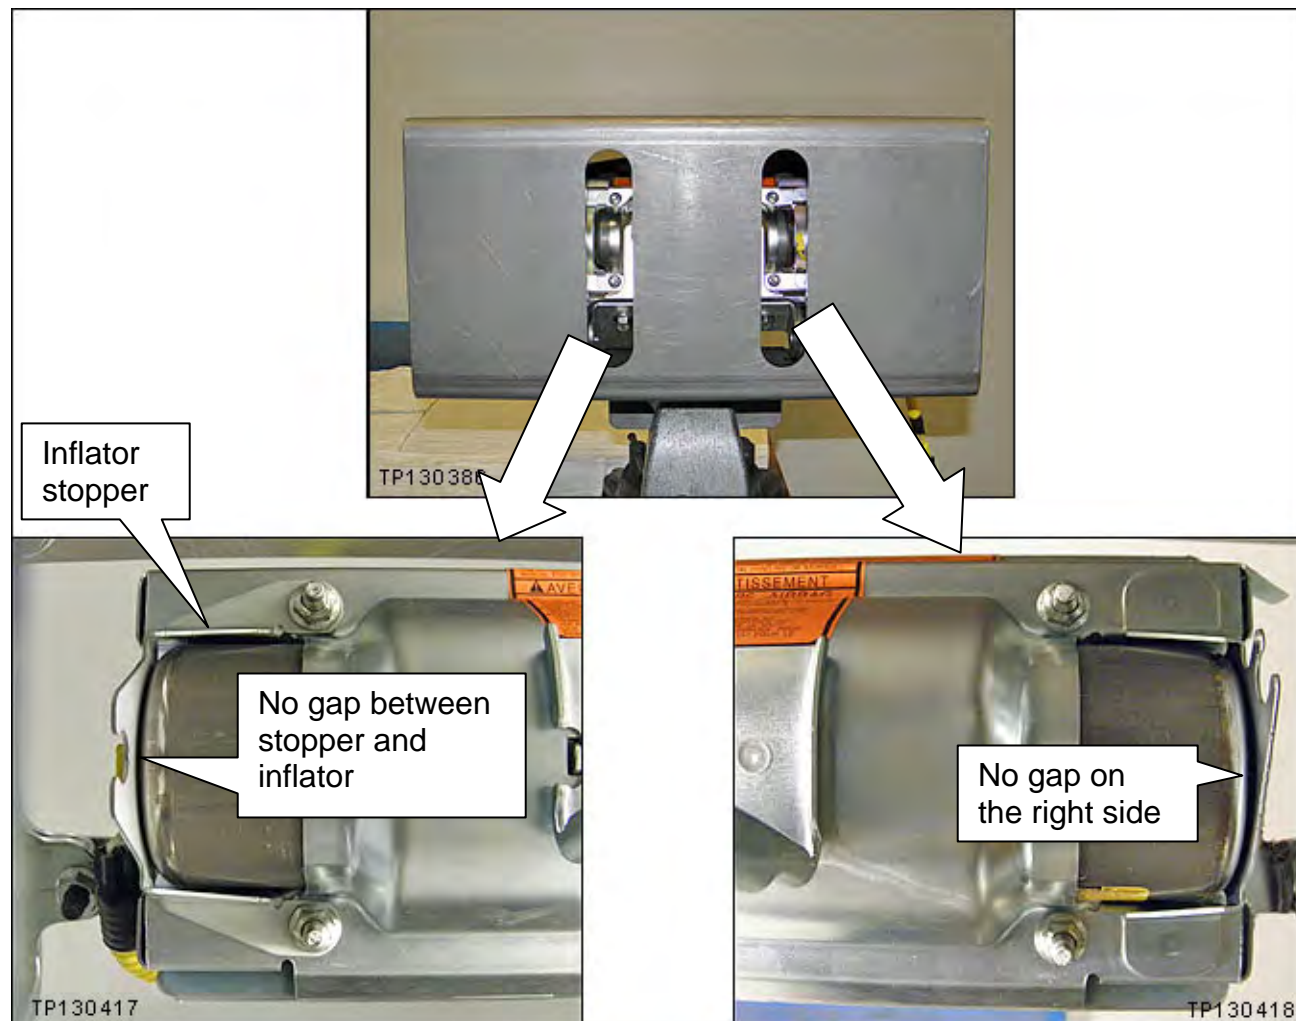

Figure M15
18. Install the inflator stopper and 4 inflator securing nuts finger tight (see Figure M15)
19. Make sure the inflator is pushed all the way into its housing – no gap on the right side (see Figure M15).
20. Make sure there is no gap between the inflator stopper and the inflator on the left side (see Figure M15).